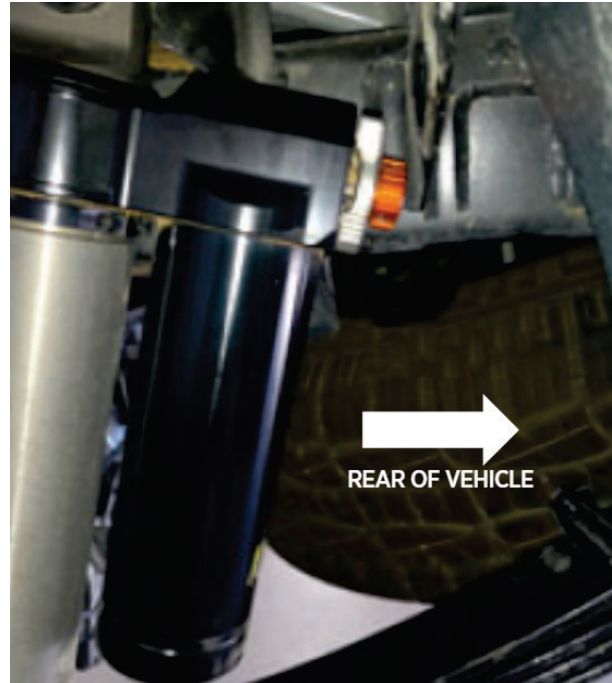

Fig. 11: Rear shock orientation (right side).
1. Install the right and left rear shocks with the reservoirs oriented toward the rear of the vehicle (Fig. 11).